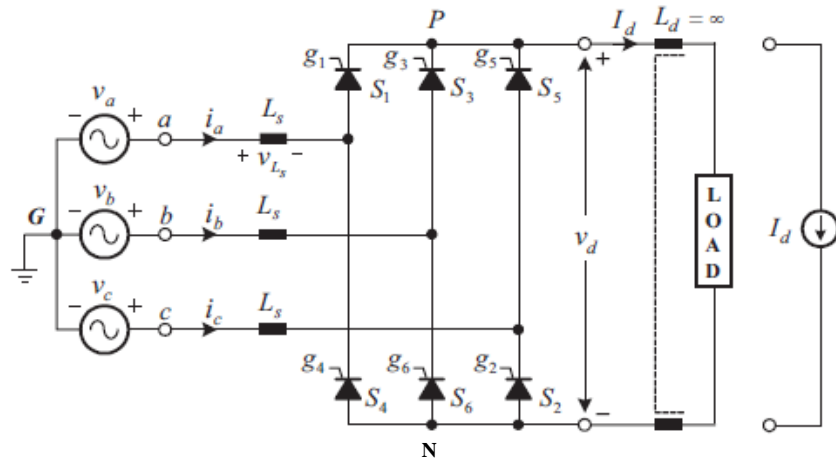

Figure 5.1 Six-pulse phase-controlled rectifier
5. a. The six-pulse phase-controlled rectifier connected to the utility grid is shown in figure 5.1. Switches S1-S6 are realized by Silicon-Controlled Rectifier SCR devices. The rms value of the grid line to line voltage is 2300V ($V_{llrms} = 2300V$). The equivalent inductance L_s is assumed to be zero. The inductance of the dc choke L_d is assumed to be sufficiently high such that the dc current I_d is ripple-free. The dc choke and the load can be replaced by an adjustable dc current source as shown in figure 5.1. The output power is $P = 400kW$. The losses in the system are neglected. The firing angle of the SCR devices is $\alpha = 30^\circ$. Sketch the voltage and current waveforms of the rectifier: v_N , v_P , v_d , i_a . (4)
- b. For the case in a), determine the conduction period and switching frequency of switch S4. (2)